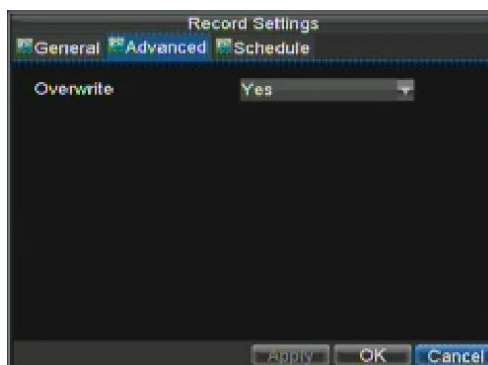

Figure 3. Advanced Record Settings
8. Select the **Advanced** tab; this will open the Advanced settings menu, shown in Figure 3.